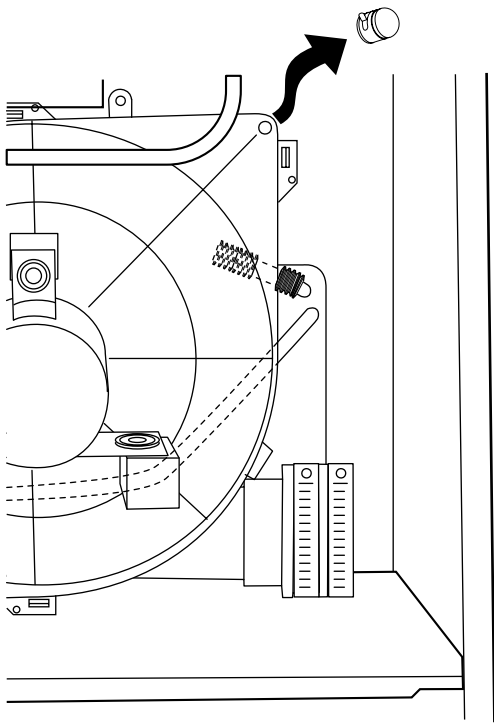

Fig. 15—Inducer Housing Drain Tube
3. Disconnect upper inducer housing drain connection cap from inducer housing. (See Fig. 15.)